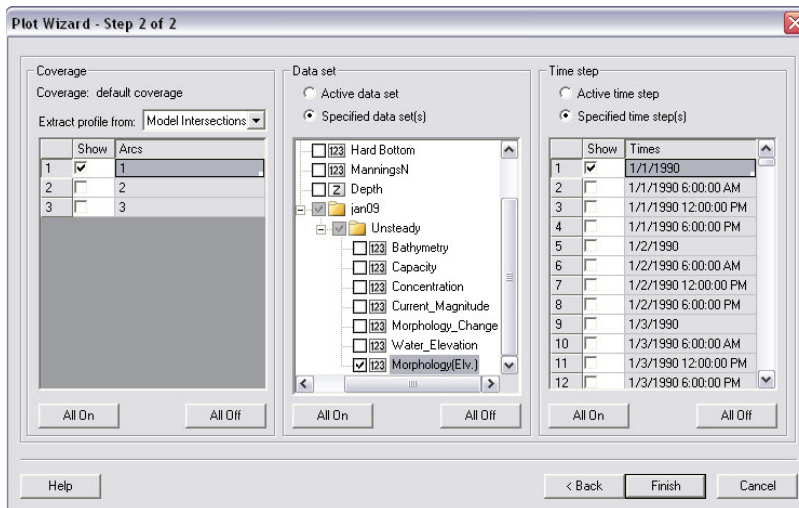

Figure 8.4.4. Plot Wizard Step 2.
12. Following Figure 8.4.4, under *Coverage* check one arc (though multiple can be plotted), under *Data set* select *Specified data set(s)* and select the generated *Morphology (Elev.)* set only, and under *Time step* select *Specified time step(s)* and check on several times spaced apart by at least several days to months, click *Finish*
15. To add more profiles or time-series, rt-click on the plot, and select *Plot data..* to bring up the original options from Figure 8.4.4.